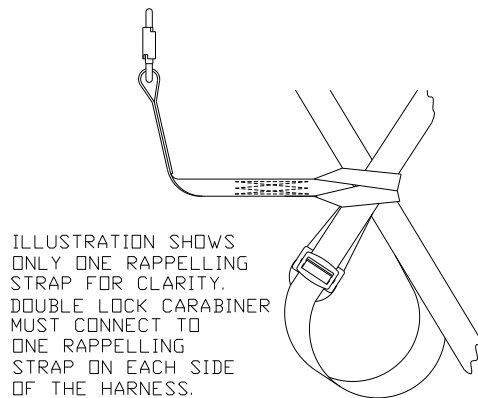

Fig 3
- ◆ Ensure a double-lock carabiner is attached to the free end eye of each rappelling loop (Fig. 3).